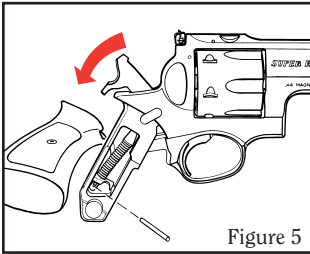

Figure 5
2. Using a properly fitting screwdriver, remove grip screw. Remove pistol grip inserts from grips. Grip panel locator may then be removed. Pull grip downward off frame. Take care not to lose the disassembly pin, which may fall free when the grip is removed (See Figure 5).